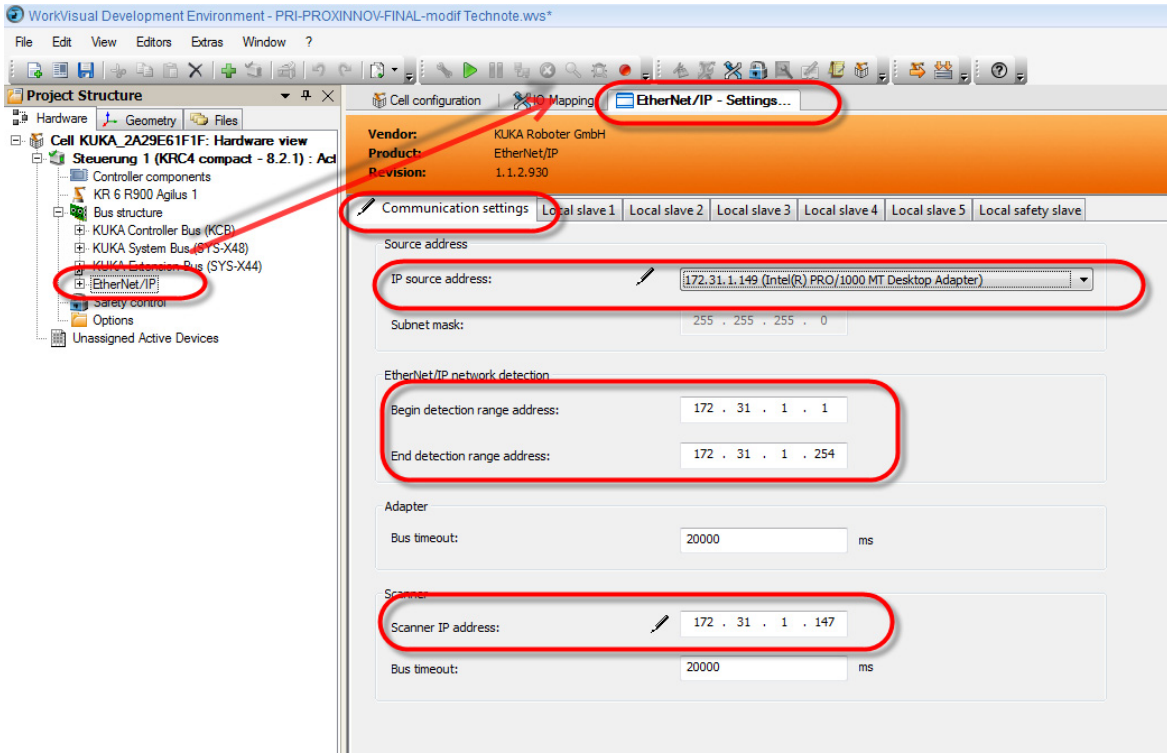

Figure 16.
- Click the OK button; the EtherNet/IP - Settings tab popup shown in Figure 16 appears
5. Referring to Figure 16, go to the Navigation Pane and select *Bus structure>EtherNet/IP*; the Communications settings popup appears.